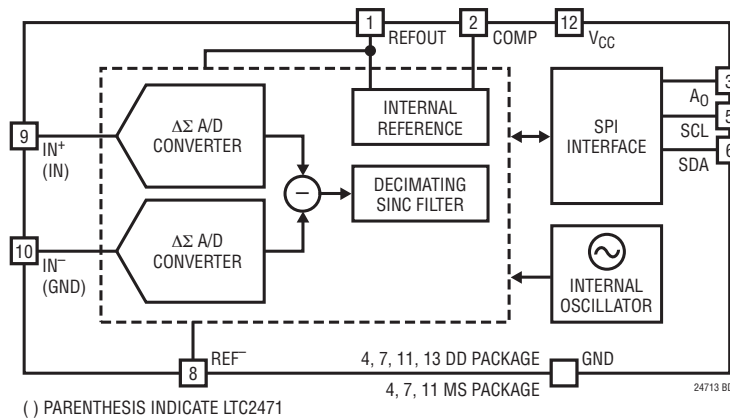
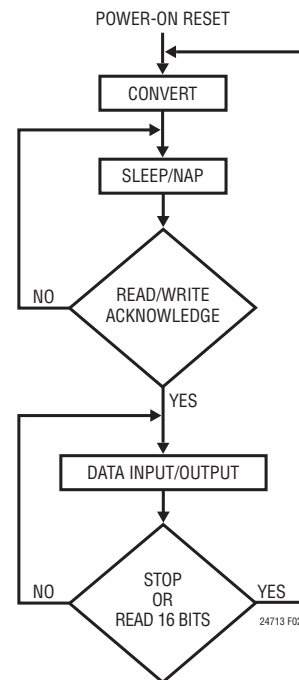
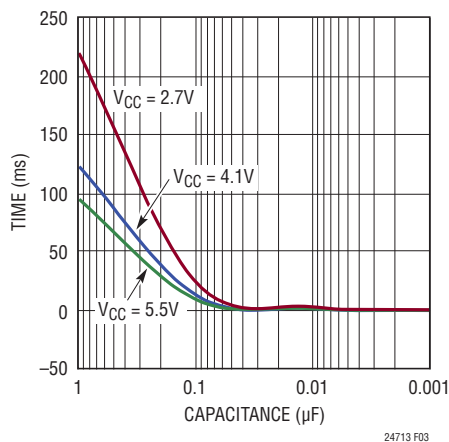
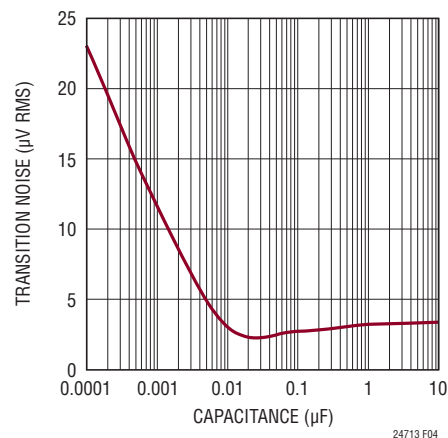

Figure 1. Functional Block Diagram
Figure 2. LTC2471/LTC2473 State Transition Diagram
Figure 3. Reference Start-Up Time vs V_{REF} and Compensation Capacitance
Figure 4. Transition Noise RMS vs COMP and Reference Capacitance
The LTC2471/LTC2473 are low power, delta sigma, analog to digital converters with a simple I²C interface and a user selected 250sps/1ksps output rate (see Figure 1). The LTC2473 has a fully differential input while the LTC2471 is single-ended. Both are pin and software compatible. Their operation is composed of three distinct states: CONVERT, SLEEP/NAP, and DATA INPUT/OUTPUT. The operation begins with the CONVERT state (see Figure 2). Once the conversion is finished, the converter automatically powers down (NAP) or under user control, both the converter and reference are powered down (SLEEP). The conversion result is held in a static register while the device is in this state. The cycle concludes with the DATA INPUT/OUTPUT state. Once all 16-bits are read or an abort is initiated, the device begins a new conversion.
While in the SLEEP/NAP state, the LTC2471/LTC2473's converters are powered down. This reduces the supply current by approximately 70%. While in the NAP state the reference remains powered up. The user can power down both the reference and the converter by enabling the sleep mode during the DATA INPUT/OUTPUT state. Once the next conversion is complete with the sleep mode enabled, the SLEEP state is entered and power is reduced to 2 μ A (maximum). The reference is powered up once a valid read/write is acknowledged. The reference startup time is 12ms (if the reference and compensation capacitor values are both 0.1 μ F). As the reference and compensation capacitors are decreased, the startup time is reduced (see Figure 3), but the transition noise increases (see Figure 4).
approximately 0.5ms. For proper operation V_{DD} needs to be restored to normal operating range (2.7V to 5.5V) before the conclusion of the POR cycle. The POR signal clears all internal registers. Following the POR signal, the LTC2471/LTC2473 start a conversion cycle and follow the succession of states shown in Figure 2. The reference startup time following a POR is 12ms ($C_{COMP} = C_{REFOUT} = 0.1\mu\text{F}$). The first conversion following power-up will be invalid if the reference voltage has not completely settled (see Figure 3). The first conversion following power up can be discarded using the data abort command or simply read and ignored. Depending on the value chosen for C_{COMP} and C_{REFOUT} , the reference startup can take more than one conversion period, see Figure 3. If the startup time is less than 1ms (1kps output rate) or 4ms (250sps output rate) then conversions following the first period are accurate to the device specifications. If the startup time exceeds 1ms or 4ms then the user can wait the appropriate time or use the fixed conversion period as a startup timer by ignoring results within the unsettled period. Once the reference has settled, all subsequent conversion results are valid. If the user places the device into the sleep mode ($SLP = 1$, reference powered down) the reference will require a startup time proportional to the value of C_{COMP} and C_{REFOUT} (see Figure 3).
The speed bit (SPD) determines the output rate, SPD = 0 (default) for a 250sps and SPD = 1 for a 1kpsps output rate. The sleep bit (SLP) is used to power down the on-chip reference. In the default mode, the reference remains powered up at the conclusion of each conversion cycle while the ADC is automatically powered down at the end of each conversion cycle. If the SLP bit is set HIGH, the reference and the ADC are powered down once the next conversion cycle is completed. The reference and ADC are powered up again once a valid read/write is acknowledged. The following conversion is invalid if the next conversion is started before the reference has started up (see Figure 3 for reference startup times as a function of compensation capacitor and reference capacitor).
The on chip 1.25V reference is internally tied to the converter's reference input and is output to the REFOUT pin. A 0.1 μ F capacitor should be placed on the REFOUT pin. It is possible to reduce this capacitor, but the transition noise increases (see Figure 4). A 0.1 μ F capacitor should also be placed on the COMP pin. This pin is tied to an internal point in the reference and is used for stability. In order for the reference to remain stable, the capacitor placed on the COMP pin must be greater than or equal to the capacitor tied to the REFOUT pin. The REFOUT pin cannot be overridden by an external voltage.
0.1 μ F capacitors are used. The first conversion following power up can be discarded using the data abort command or simply read and ignored. Depending on the value chosen for C_{COMP} and C_{REFOUT} , the reference startup can take more than one conversion period, see Figure 3. If the startup time is less than 1ms (1ksps output rate) or 4ms (250sps output rate) then conversions following the first period are accurate to the device specifications. If the startup time exceeds 1ms or 4ms then the user can wait the appropriate time or use the fixed conversion period as a startup timer by ignoring results within the unsettled period. Once the reference has settled all subsequent conversion results are valid. If the user places the device into the sleep mode ($SLP = 1$, reference powered down) the reference will require a startup time proportional to the value of C_{COMP} and C_{REFOUT} , see Figure 3.